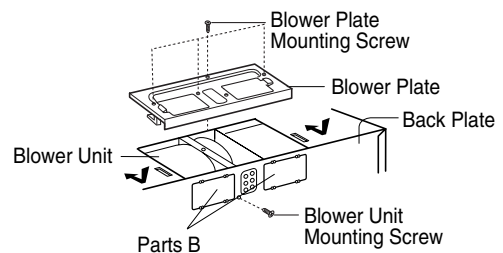

Figure 22
5. Reattach blower plate to microwave oven. Attach with the one blower unit mounting screw and then the one or several blower plate mounting screw(s). See Figure 22.